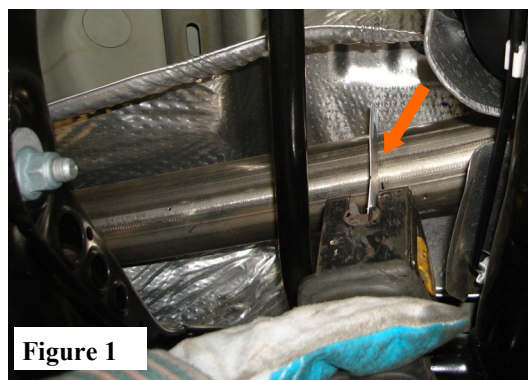

Figure 1
1. The OE exhaust cannot be removed without cutting the pipe above the rear-axel area. Cut pipe as indicated using a metal-cutting blade (Figure 1). Support the muffler as needed while cutting.